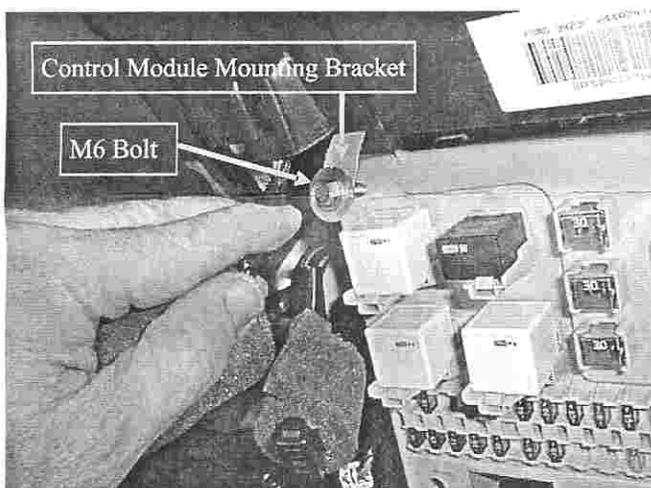

Fig 13. M6 bolt installed onto the control module mounting bracket.
21. Attach 2 pieces of foam tape (item 8) to reduce dash squeaks to the front and sides of the control module.
22. Attach the mounting bracket (item 2) to the control module with the mounting hole towards the connector. Don't push right up onto the plastic nipple on the back of the control module. This make fitment easier.
24. With the M6 bolt located in the mounting bracket hole refasten to secure the control module and the fuse panel. Retighten the other 3 M6 bolts. Refer Fig 13 &14.